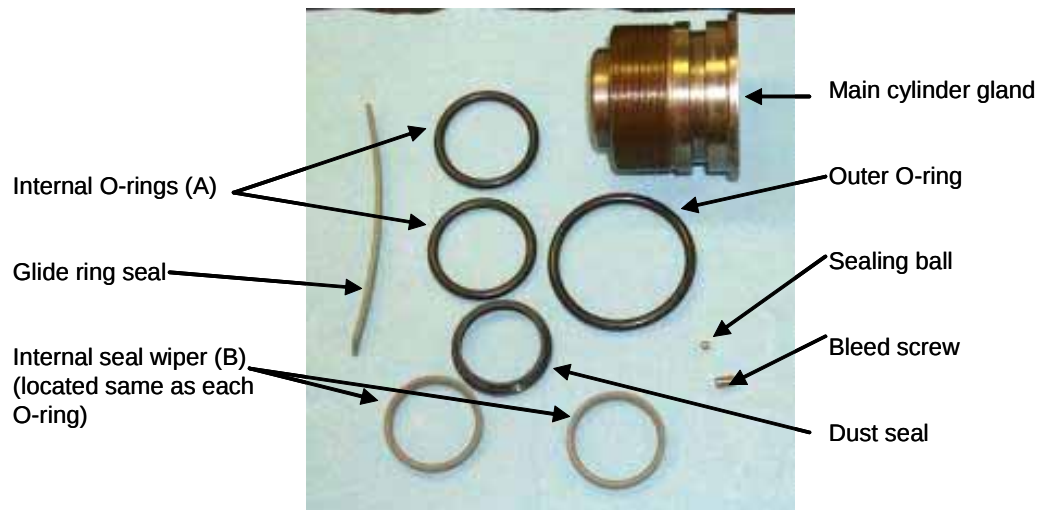
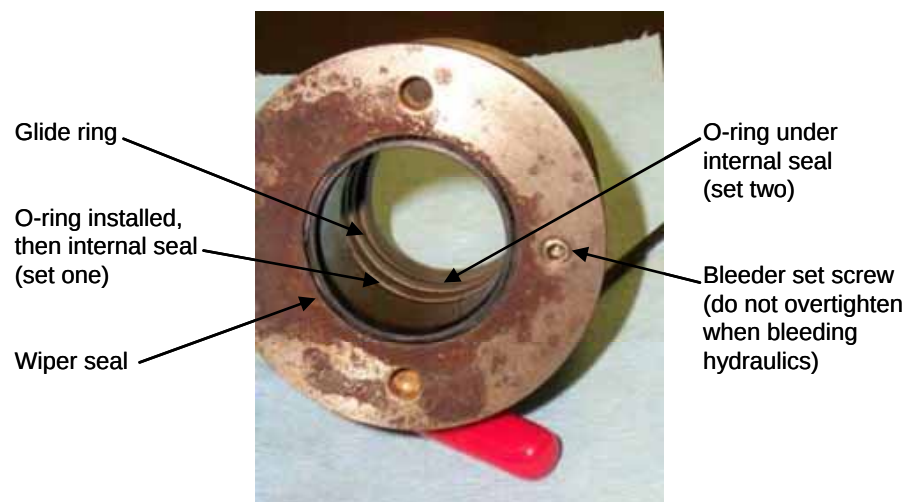

Figure 55. Main cylinder gland and components.
Figure 56. Assembled main cylinder gland.
Figure 55 shows the main cylinder gland and all necessary seals used in this component. Replacement of these seals is relatively simple. First, remove the old seals. Second, install the O -ring (A), then the internal seals (B) at the same location. Third, install the glide ring seal. (It may be necessary to form this seal first.) Fourth, put the outer O-ring into place. Fifth, install the dust seal. Finally, install the bleed screw and sealing ball (figure 56).